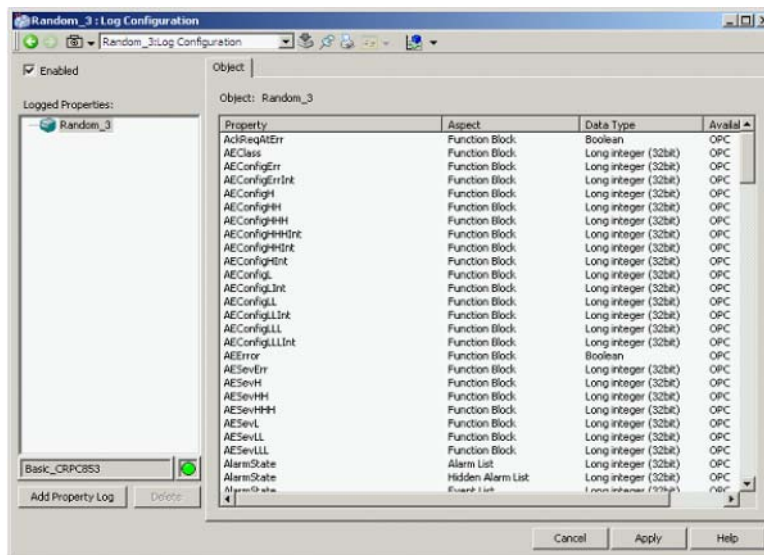

Figure 204. 800xA History Log Configuration window
- Click **Log Configuration** aspect. The **Log Configuration** window appears as shown in Figure 204.